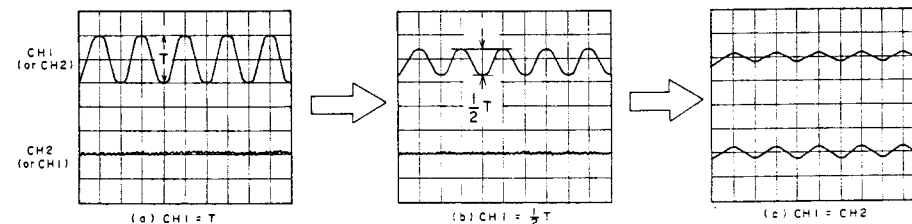

Fig. 4-10
- Connect an oscilloscope's CH-1 to the P327 ① pin (CTL OUT) on the MAIN PCB and CH-2 to the AUDIO OUT.
- Turn the ①, ② and ③ screws alternately to obtain 1/2 of the output level of either CH-1 or CH-2 whichever has an output signal as shown in Fig.4-10.
- Then set both the oscilloscope channels to 100 mV/div and finely adjust the ①, ② and ③ screws until both signals of CH-1 and CH-2 are nearly the same level.
- Confirm there is no curl or wrinkle at the GR-LEVER ROLLER and the head azimuth is just aligned. Re-adjust the ② or ③ screw if necessary (refer to 4-3-1 to 4-3-2).